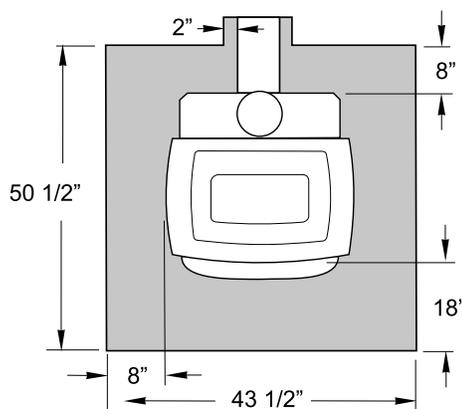

Figure 10. Floor Protection minimum dimensions, Canada.
*IN CANADA:* Floor protection must extend continuously 18" from the front of the stove and 8 in. from the sides *and rear*. It must also extend 2 in. under the chimney connector. This results in a floor protector 43 1/2 in. x 50 1/2 in. See fig.10.